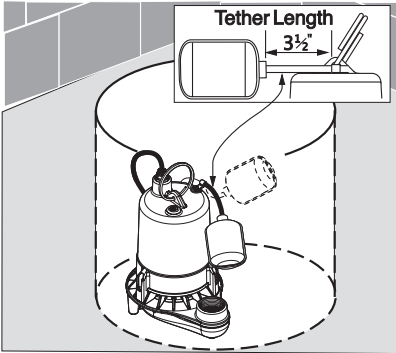

Figure 3
- Place the pump in the sump; make sure that nothing interferes with switch operation. For tethered switch models, the tether length should be 3-1/2" (See Figure 3).